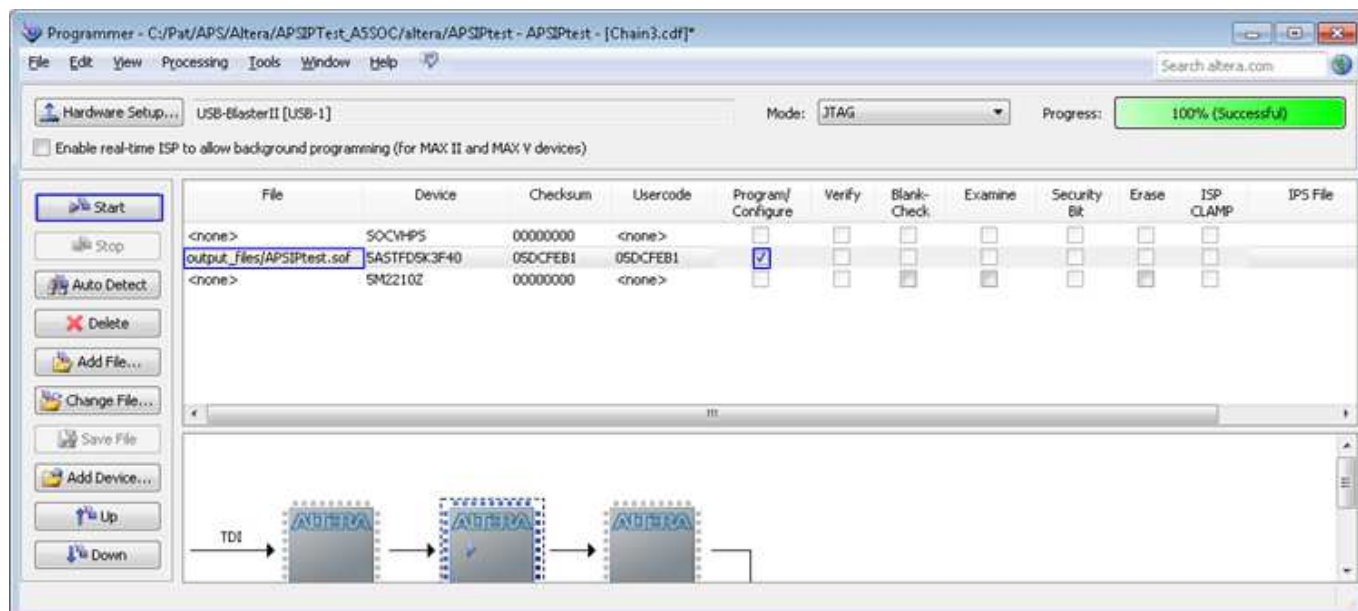

Figure 2-10 Programmed by QuartusII Programmer
- Use QuartusII Programmer to program “APSIPTest.sof” file, as shown in Figure 2-10.